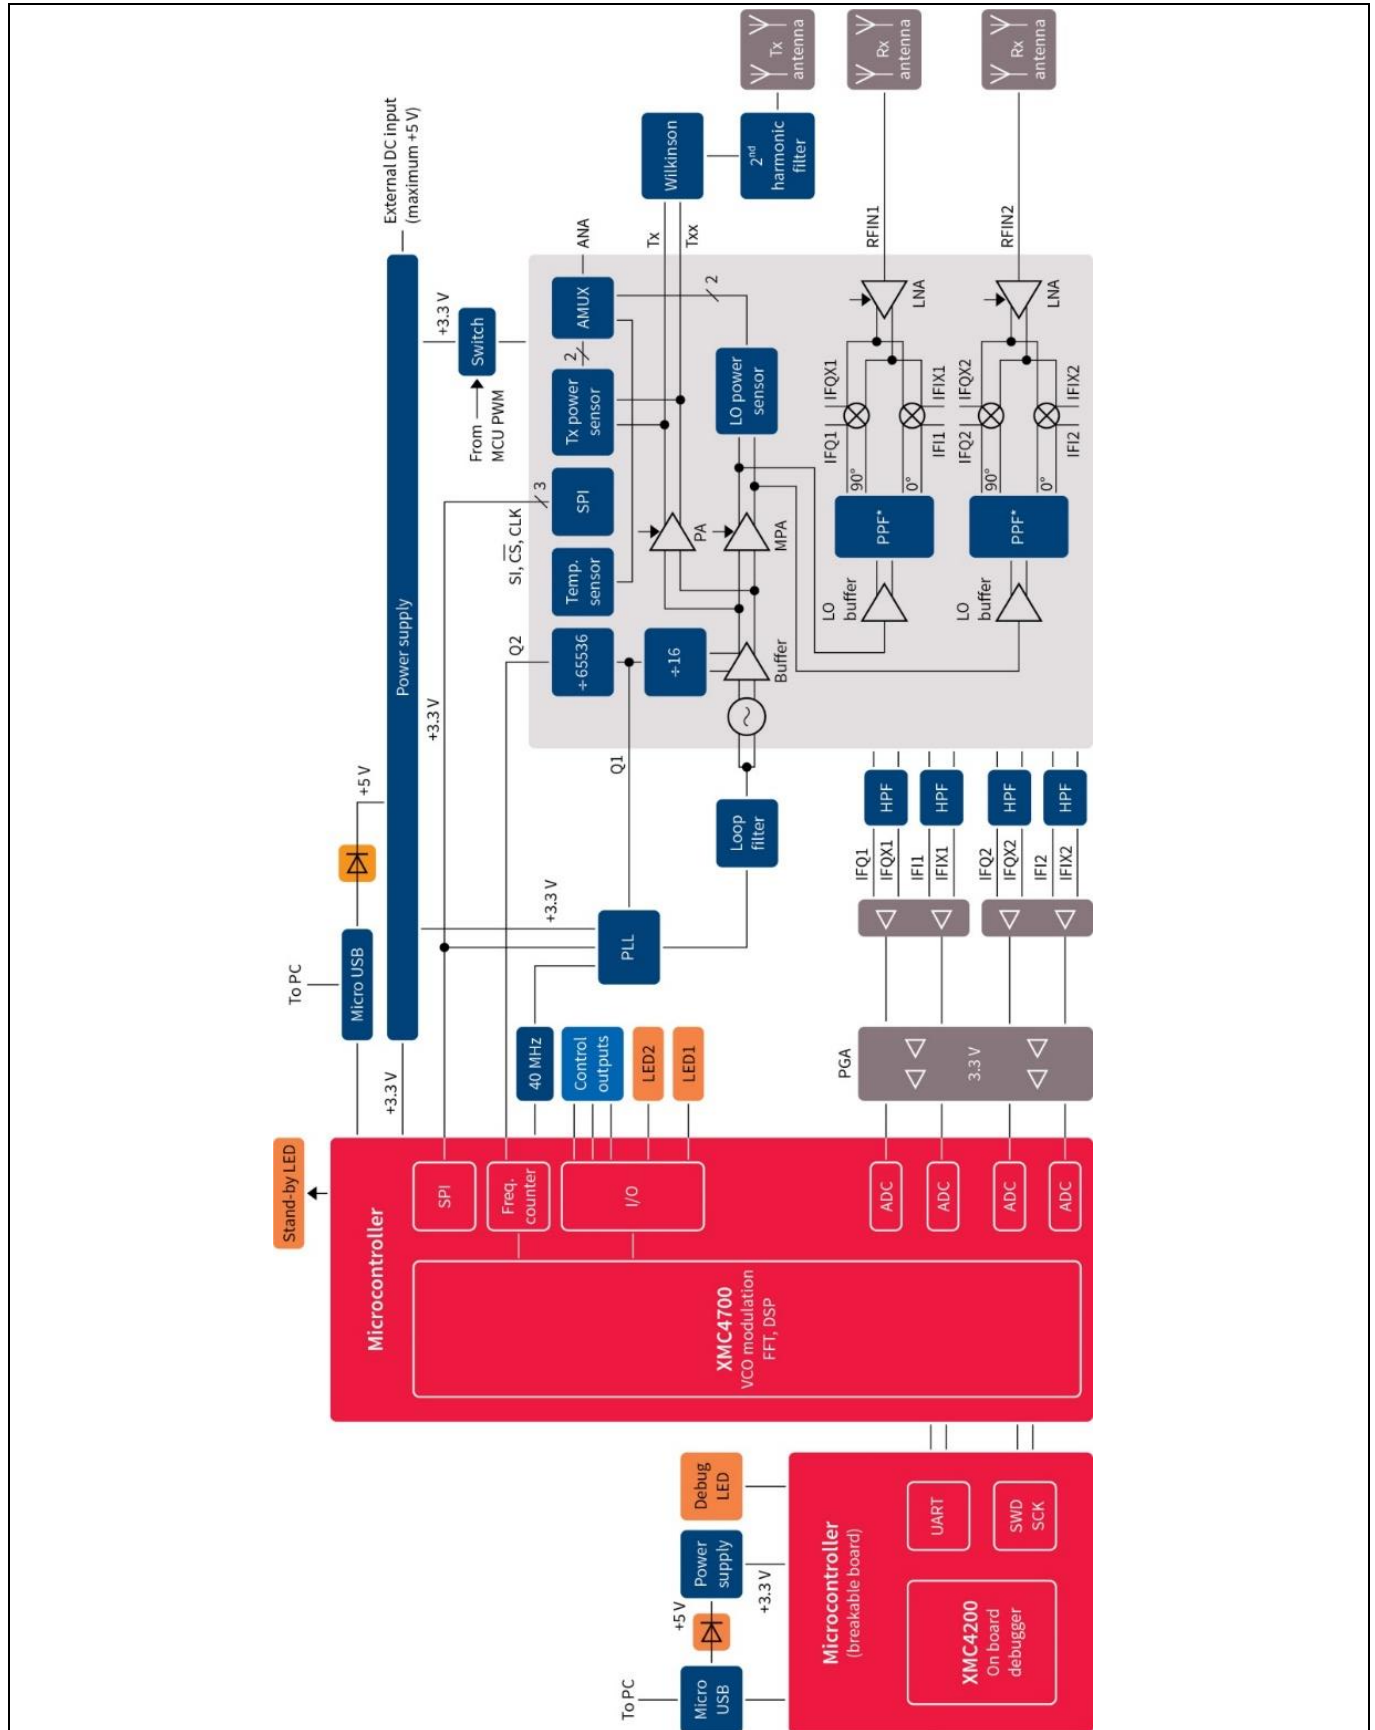

Figure 5 Block diagram – Position2Go demo board
Figure 5 shows the block diagram of the demo board. The board is split into a main RF unit and a breakable debugger unit for programming. The RF unit consists of the highly integrated 24 GHz transceiver IC BGT24MTR12 with 1 TX and 2 RX. The MMIC features an integrated Voltage Controlled Oscillator (VCO), Power Amplifier (PA), integrated temperature and power sensors, prescalers and IQ receivers.